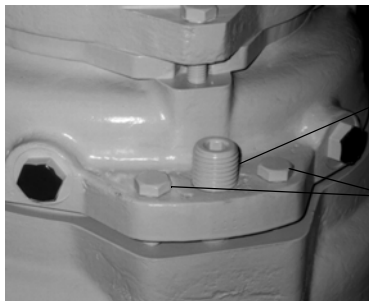

Fig. 10
2. Locate the six fixing screws securing the pump housing to the motor and the three adjusting screws, see fig. 10.